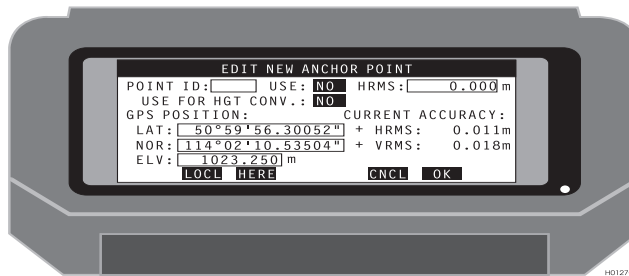

Figure 2.45. Edit New Anchor Point (GPS) Screen
10. To enter a new GPS point to the definition list, use the Edit New Anchor Point (GPS) screen (Figure 2.45).